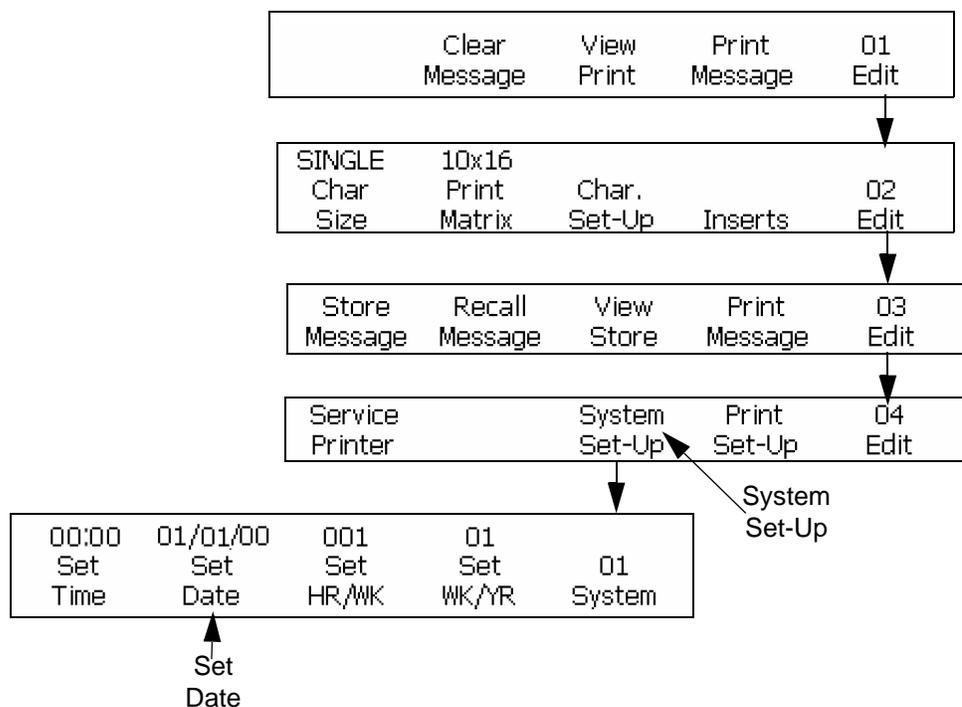

Figure 7-6: Access Frame <01 System>
- 1 Begin with the frame <01 System>. Refer to Figure 7-6.